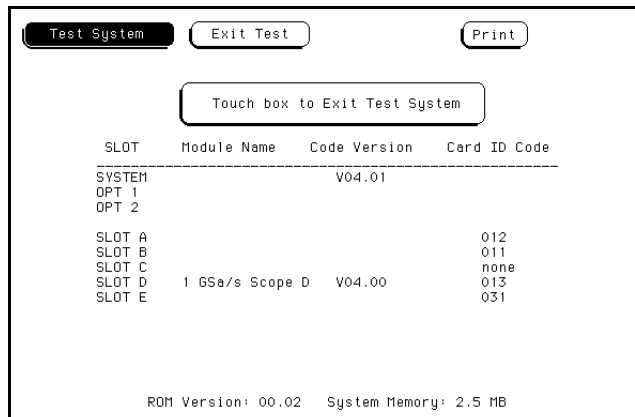

Figure 6-9. Exit Test System Screen
12. Touch the box that reads "Touch box to Exit Test System". See figure 6-9.